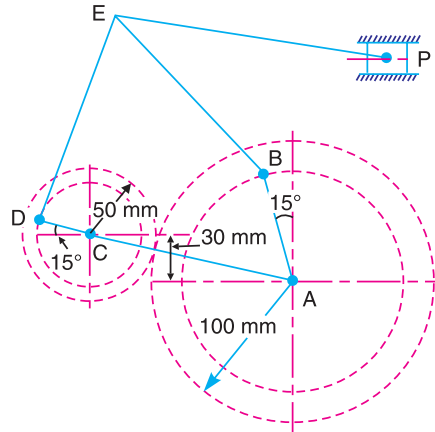

Fig. 8.24
**Example 8.12.** The dimensions of the Andreau differential stroke engine mechanism, as shown in Fig. 8.24, are as follows: